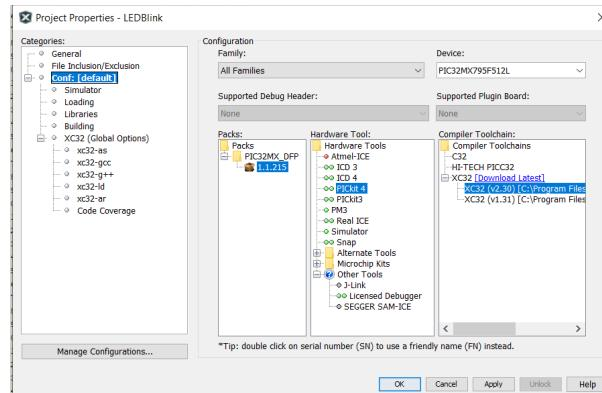

Fig. 7.2
2. In Project Properties window, under categories select Conf:[default]. Under Hardware tools: Select the ICD3/4 or PicKit3/4 as per your need if it is not selected while creating the project. Click OK. (Refer Fig. 7.2)